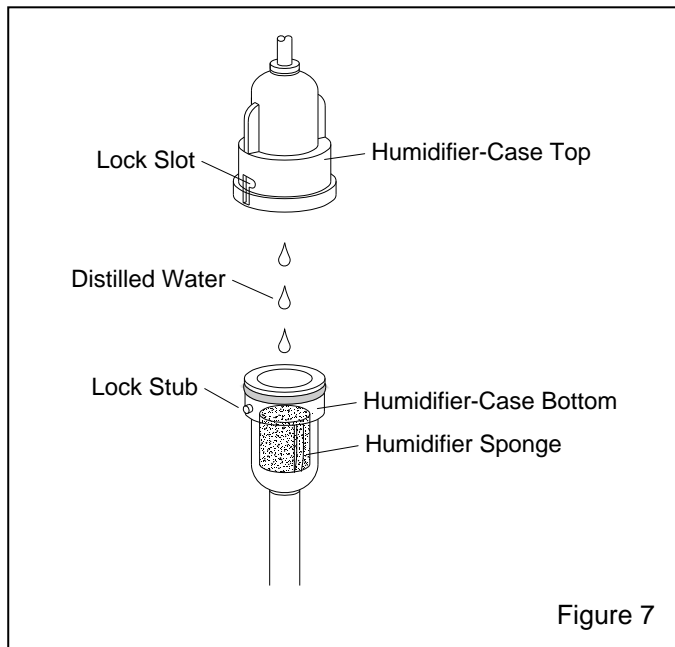

Figure 7
4.4.5 Moisten the sponge by putting in a few drops of distilled water, as shown in Figure 7. Shake out excess water. The humidifier needs only to be dampened; excess water must be removed so that it does not enter the instrument's plumbing.